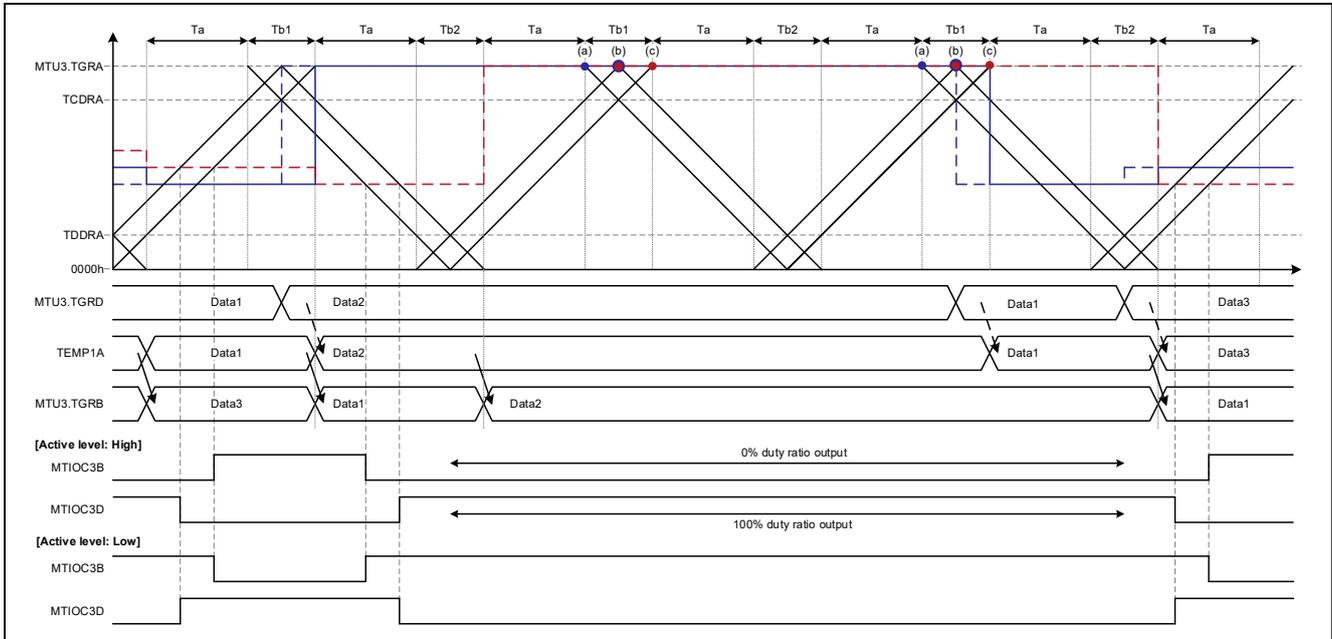

**Figure 1.6 Complementary PWM Mode 2 Operation Example
| Complementary PWM mode 2 | Trough | Figure 1.5 | Figure 1.6 | Figure 1.11 | Figure 1.12 |
- [Operation example 4] Figure 1.6, Complementary PWM Mode 2, Output Start: Trough, Ta Interval Overwrite
Figure 1.6 shows an operation example of buffer overwrite in the Ta interval in complementary PWM mode 2. Except for the difference in the buffer overwrite timing, the operation is the same as that shown in Figure 1.5.